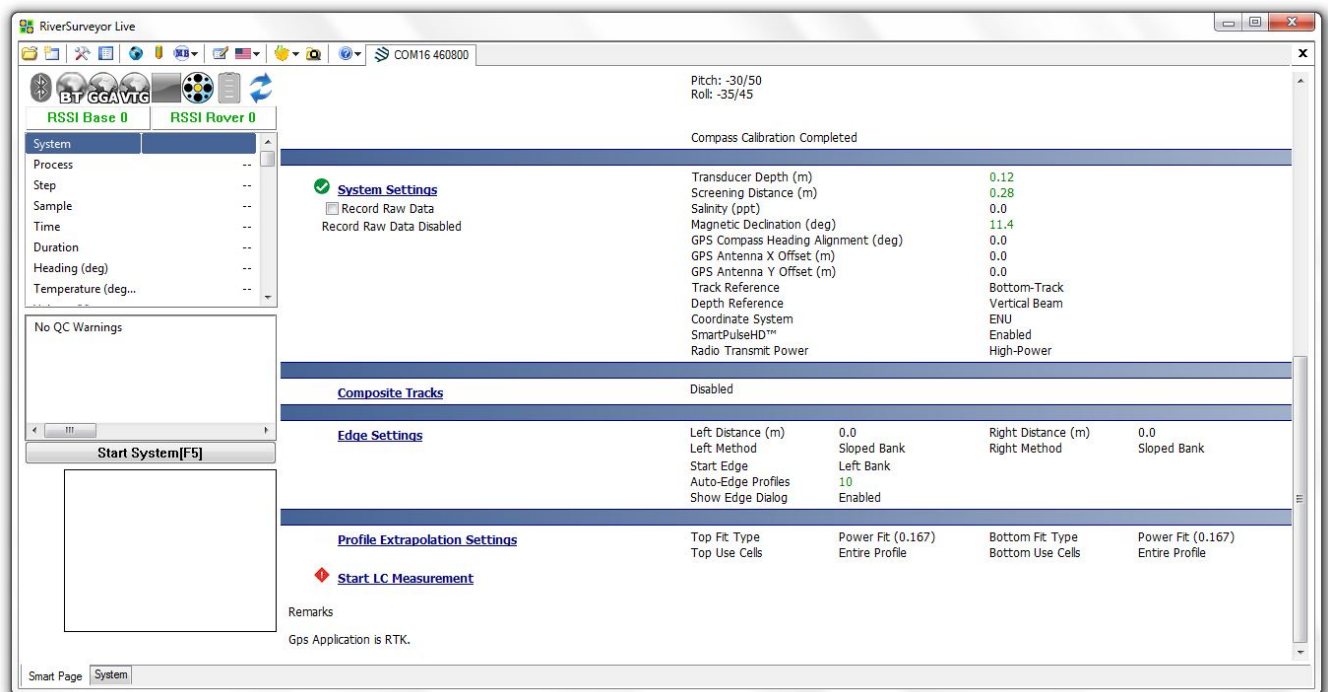

Figure 176. SmartPage - Loop Method
5. Click on **Start LC Measurement** located on the bottom of SmartPage as shown in **Figure 176**. The instrument will begin profiling.